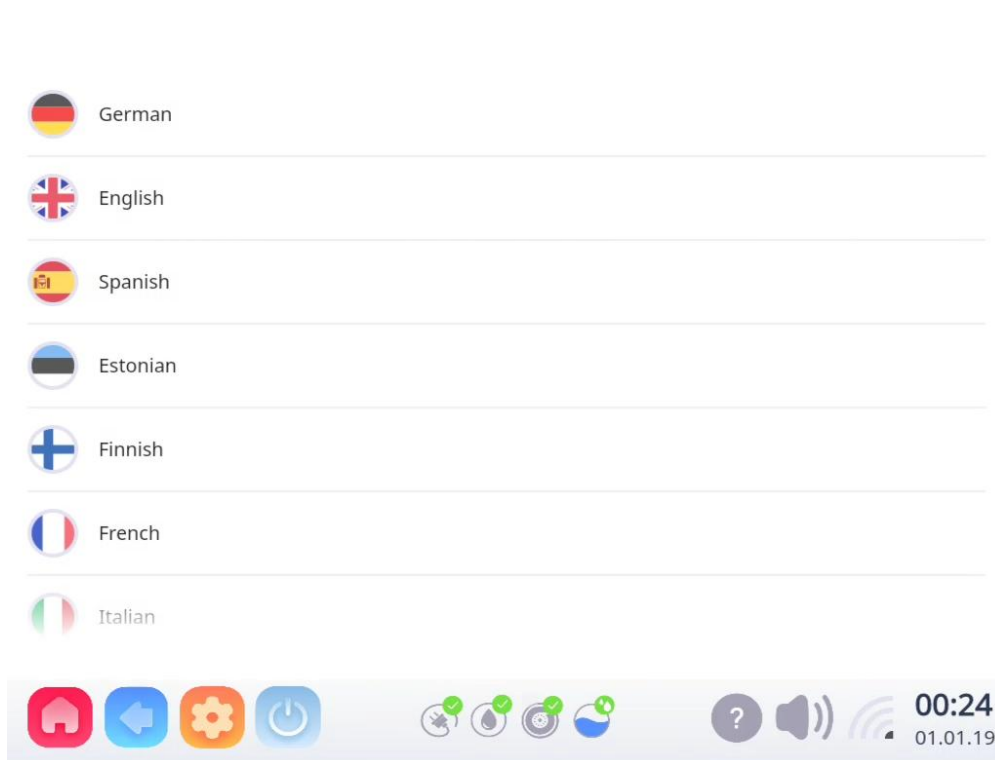

Figure 5.4-12
- Click "Translation language" to select the language.(see Figure 5.4-12)